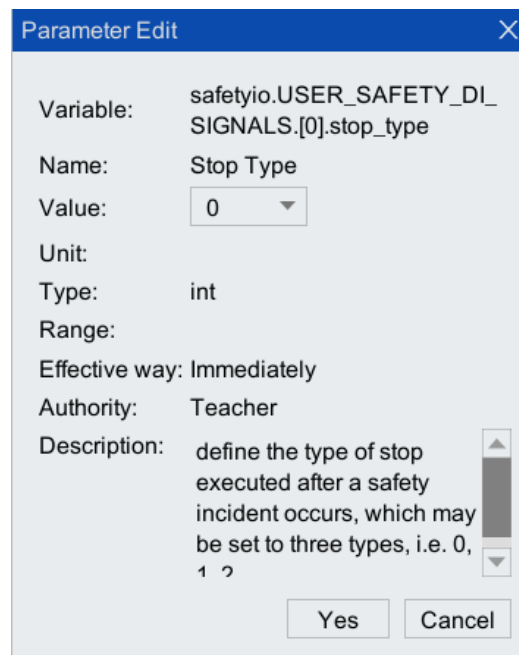

Figure 3-5 [Type of execution stop] Configuration interface
- Step6. Click to select the row of [stop_type (type of execution stop)], click <Edit>, the configuration interface shown in Figure 3-5 will pop up, and configure the parameter in [Value] as the default value of "0".